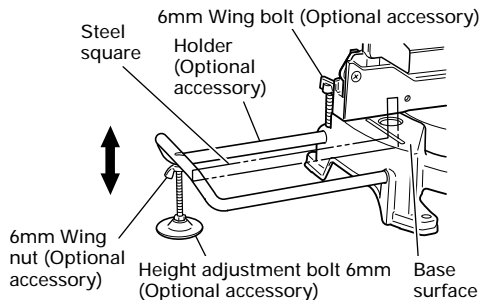

Fig. 18
- (1) As indicated in Fig. 18, use a steel square for aligning the upper edge of the holders with the base surface. Loosen the 6 mm wing nut. Turn a height adjustment bolt 6 mm, and adjust the height of the holder.